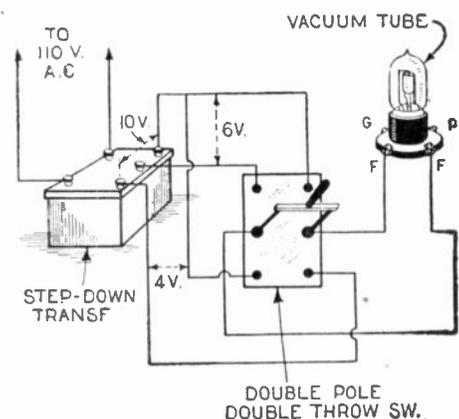

Fig. 198. If your tube stops functioning and you wish to renew its efficiency, use the above circuit to rejuvenate it.
A. 1. The circuit diagram used in connection with the rejuvenation of vacuum tubes is given in Fig. 198. UV-201A tubes are lit with about ten volts on the filament for about ten to fifteen minutes. If the tube has not come back in that length of time, try again until it does work. UV-199 tubes are lit with about four volts on the filament for about five to ten minutes or until they work again. Be careful about rejuvenating tubes because there is a possibility of burning them out if carelessly handled.